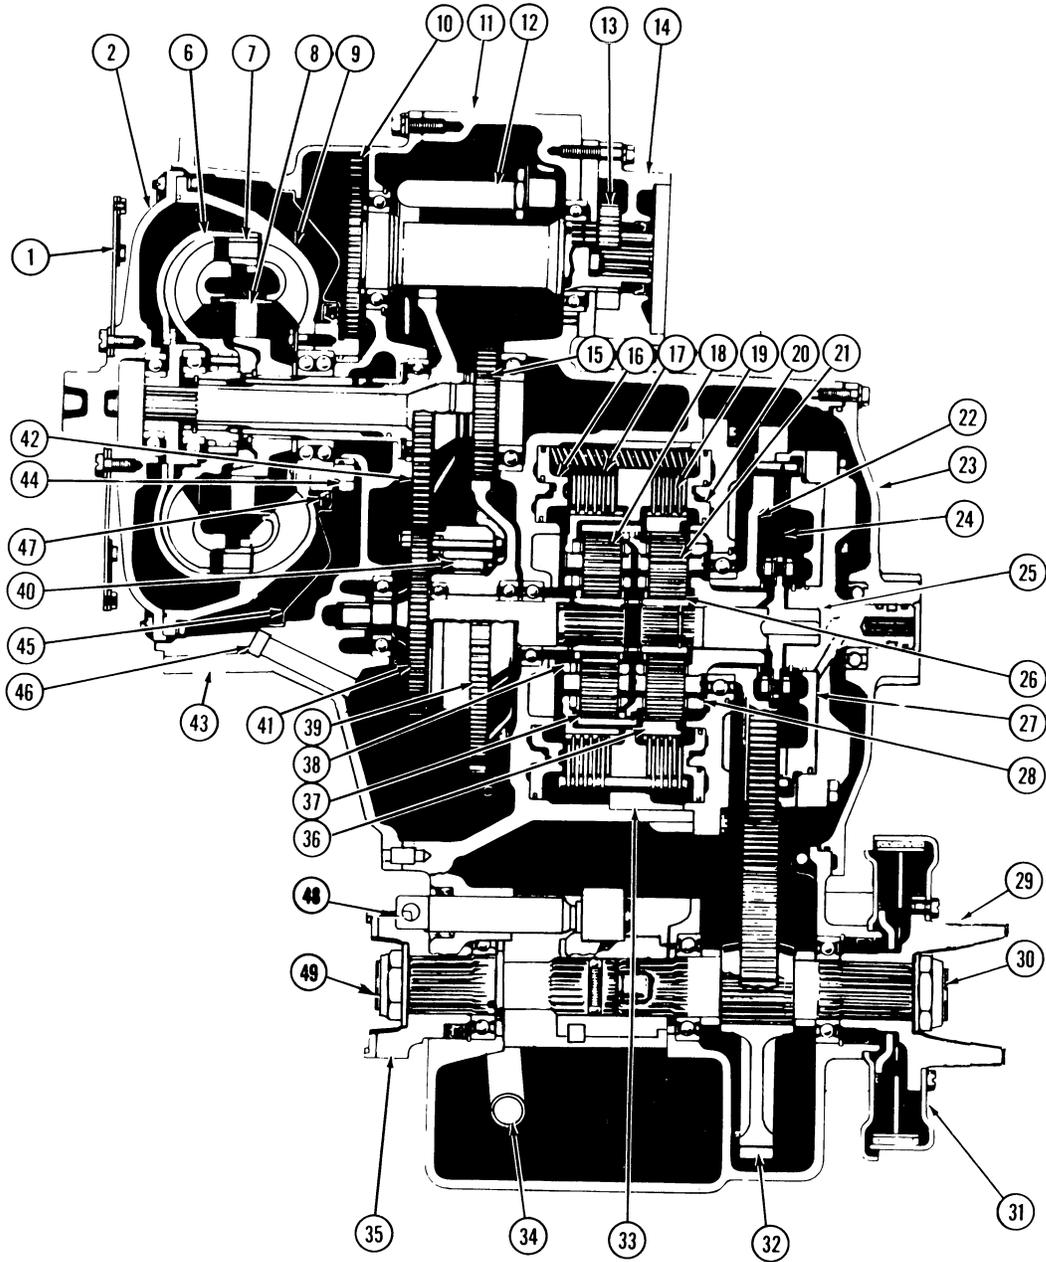

FIG. 3A TT 2221-1 (Cross Section)
MOUNTING, INPUT DRIVE (FIG.3A), The transmission is direct mounted. The transmission is coupled to the engine through a modified SAE 3 mounting face on torque converter housing (43), which is bolted to the engine flywheel housing. Flex disk drive assembly (1) bolts to the engine flywheel.
TWIN-TURBINE TORQUE CONVERTER (FIG. 3A), Each turbine is connected to its own output gear set. First turbine (7) provides high torque at low speed; second turbine (6) provides higher speed with less torque. There are four elements in the twin-turbine torque converter - pump (9), first turbine (7), second turbine (6), and stator (8).
RANGE GEARING, CLUTCHES (FIG.3A), The transmission has two planetary range gear sets and three clutches. The reverse-range planetary gear set consists of ring gear (37), carrier assembly (38), and sun gear (26) (integral with low-range sun gear). The reverse-range gear set is controlled by reverse-range clutch (17).
LEGEND FOR FIG. 3A
OUTPUT SHAFT (Fig. 3A) The transmission may be equipped with any one of two output shaft configurations, two-piece shaft (30 and 49), and rear output shaft (30).
OIL PUMP (Fig. 3A) A positive displacement, gear type oil pump (13) furnishes the oil flow and pressure necessary for hydraulic operation, lubrication, and cooling of the transmission components. Rotation of the pump is in a clockwise direction (viewed from rear) and is proportional to the speed of the engine. A mounting pad (14) is provided at the rear of the oil pump to accommodate an implement pump.
PARKING BRAKE (Fig. 3A) A 10 x 1.5 inch (254.0 x 38.1 mm) expanding shoe type parking brake (31) is available. The brake is mechanical, and manually operated.